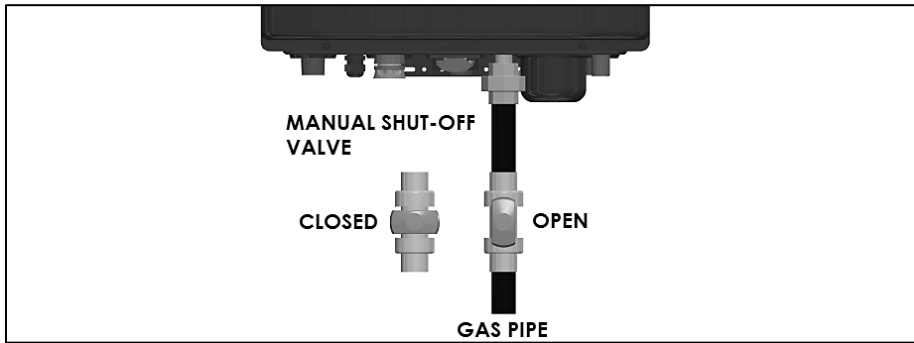

Figure 20 – Gas Line with Shut-Off Valve Detail
4. A manual gas shut-off valve should be installed in the gas supply line close to the appliance. See Figure 20 for detail.